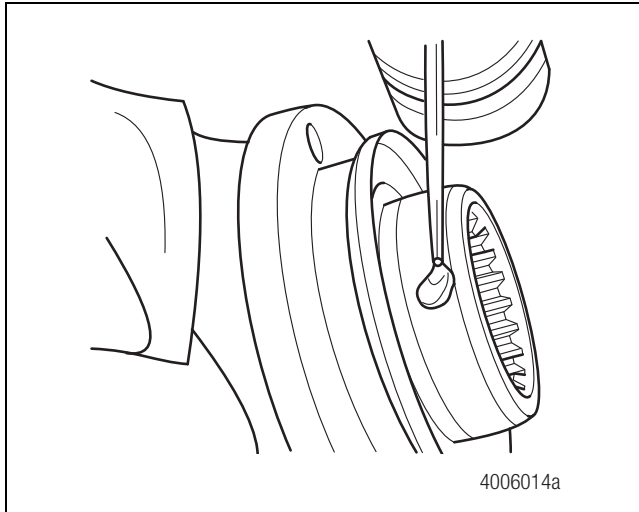

Figure 7.9
5. Apply a film of oil to the sleeve. Figure 7.9.